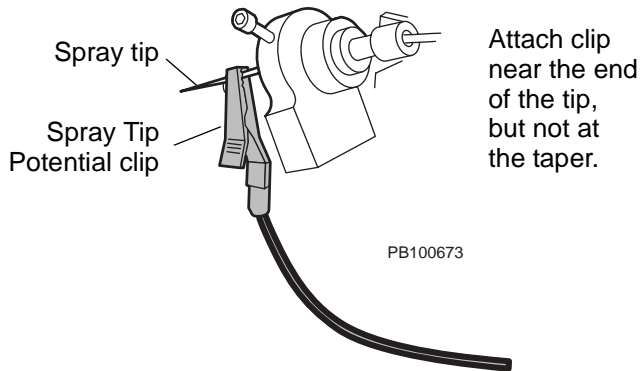

Figure 4-7 Attaching the Spray Tip Potential Clip
5. Attach the Spray Tip Potential clip to the spray tip, close to the tapered end, without blocking your view of the tip on the video monitors (Figure 4-7). The clip must be attached near the end of tip (but not at the taper) to ensure that it is in contact with the metal coating.